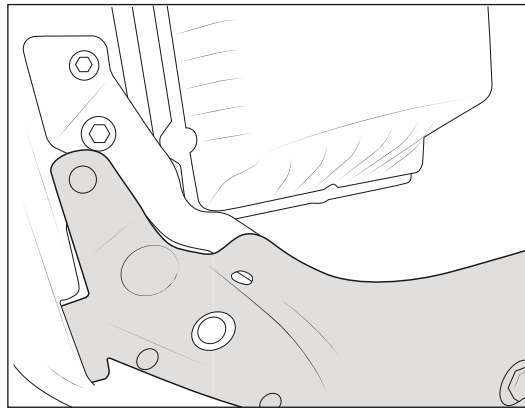

Figure 22
13. Reinstall the plastic radiator cover and trim slightly to clear the AEV radiator support bracket (fig. 22).